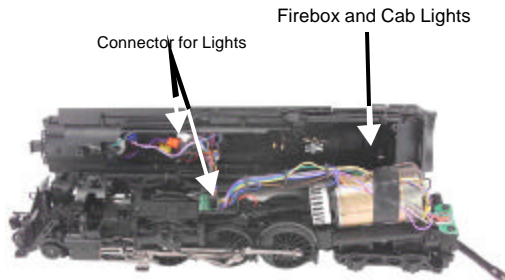

Figure 10: Boiler Connector Cables
1. Remove the body from the chassis by removing the 6 screws shown in Fig. 10.